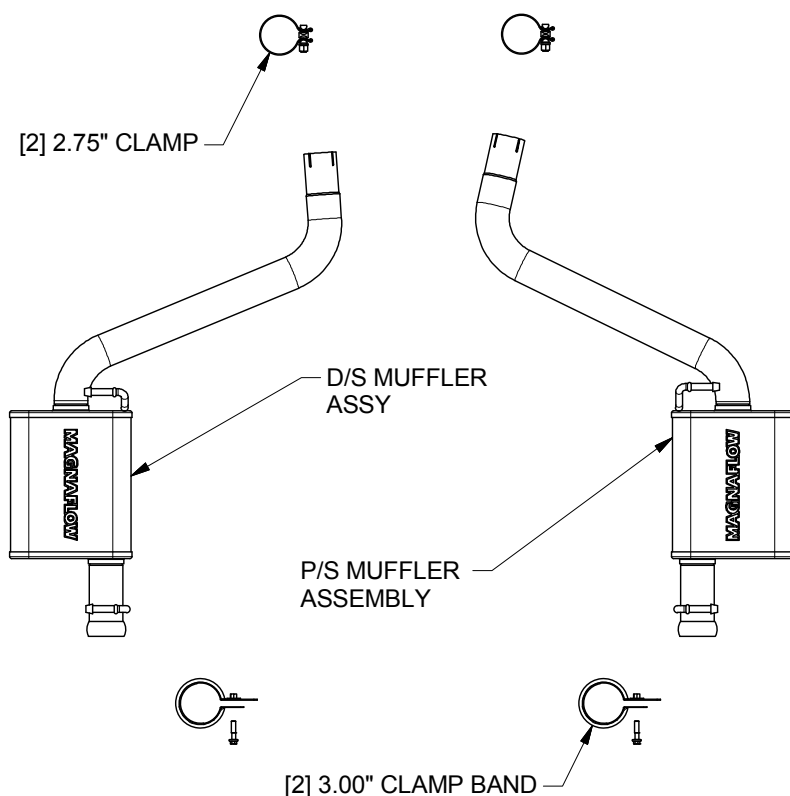

Fig 1.
Step 1: (Carefully read all instructions before installation) You will need to cut the existing exhaust system in order to install your new MAGNAFLOW exhaust. Measure and mark before you make a square cut on both pipes 10 3/4" behind the hanger weld points (Fig 1.)